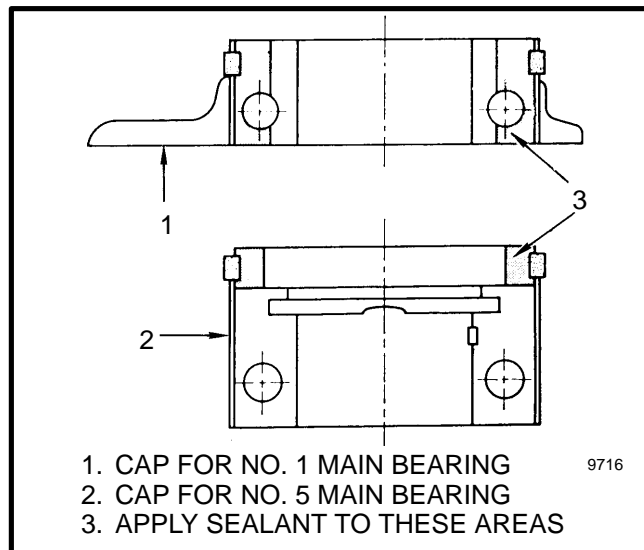

FIGURE 38. APPLICATION OF SEALANT TO THE BEARING CAPS
5. Install the main bearings into the bearing caps. Apply clean engine oil to the surface of the bearings and install the bearing caps. Apply a sealant to the areas shown in FIGURE 38. to the No. 1 and No. 5 bearing caps.